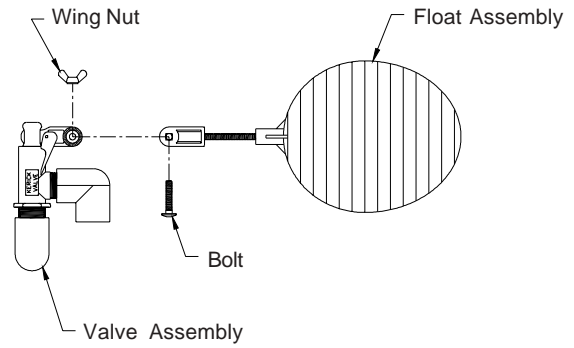

Figure 22A
- 9) Remove wing nut and bolt from float assembly and use it to attach the float assembly to the valve assembly. **See Figure 22A.**